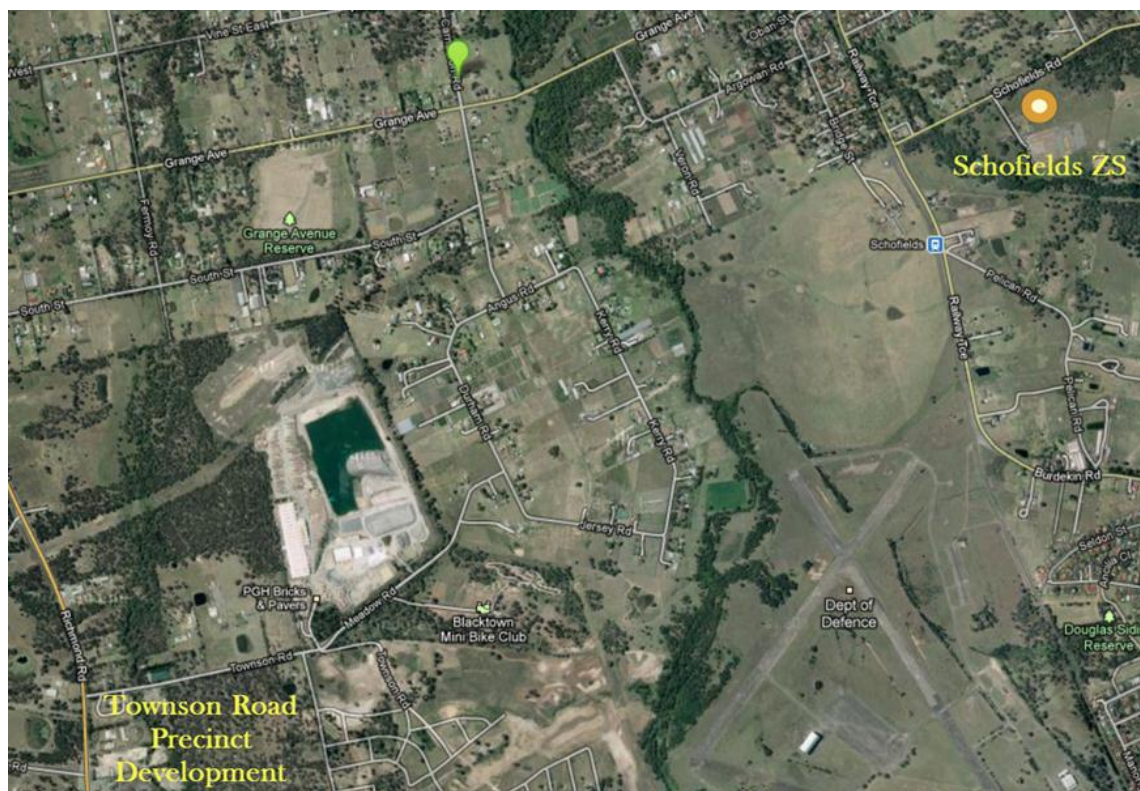

Figure 10 – Endeavour Energy Supply Plan
To cater for the total load of the entire development, a new feeder is required to be installed from the new Schofields zone sub (ZS) to suitable location between ABS 84024 and Pole Sub 79 along Carnarvon Road, which is located to the north-east of the Application Site. This infrastructure is identified on Figure 10 below.